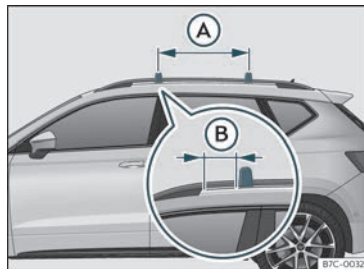

Fig. 116 Attachment points for the roof railings for the roof carrier system.
The crossbars are assembled on the roof railings. The distance between crossbars >>> Fig. 116 (A) should be between 70 and 90 »